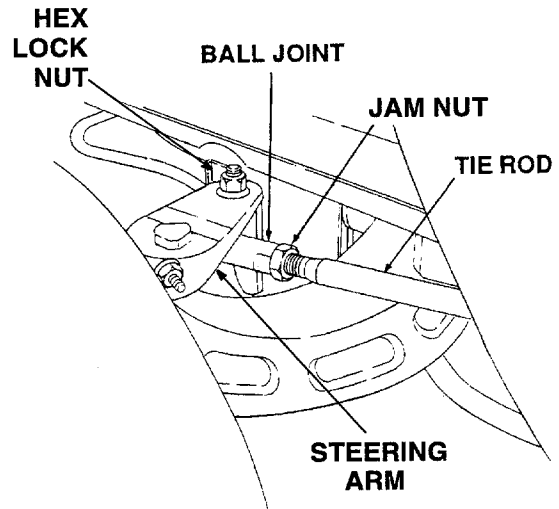

Figure 13
To adjust the toe-in, disconnect the front ball joints from the steering arms by removing the hex lock nuts (Refer to Figure 13) and proceed as follows:
6. Loosen the jam nuts from the ball joints (See Figure 13).